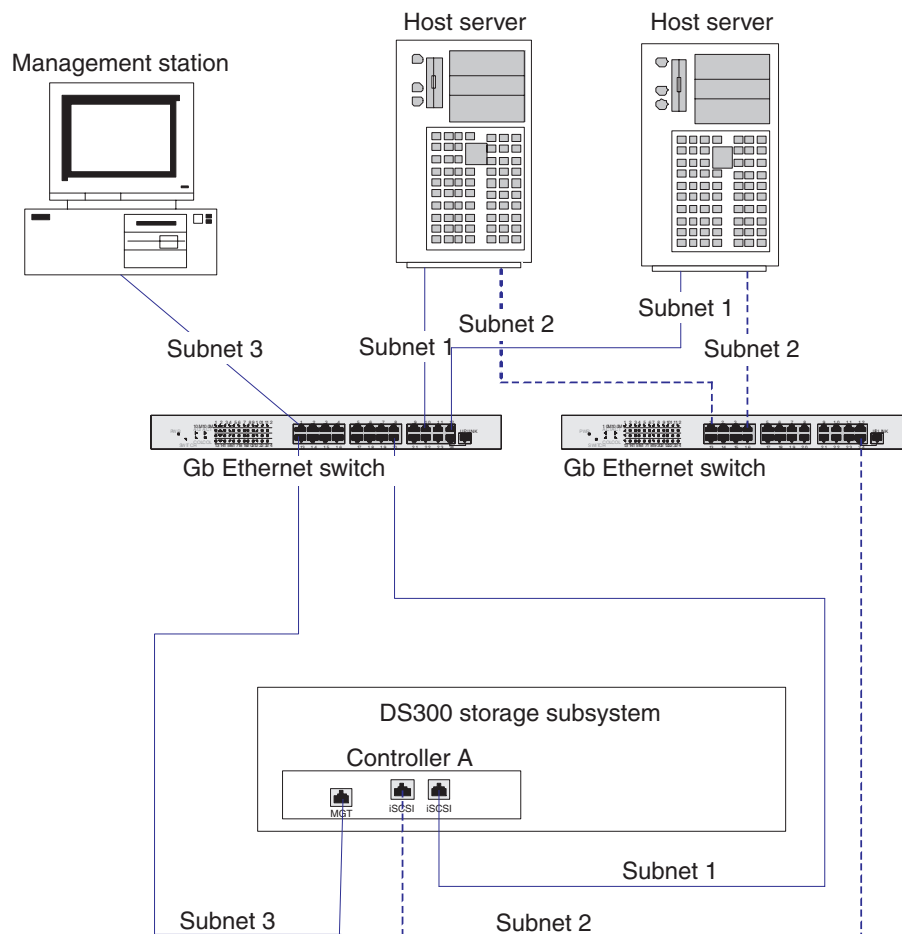

Figure 11. Multiple port, two server, two-switch configuration (DS300)
2. You can replace the two Gb Ethernet switches shown in Figure 11 with one large Gb Ethernet switch with enough ports. VLAN can also be used to isolate the two iSCSI networks, instead of a single switch.